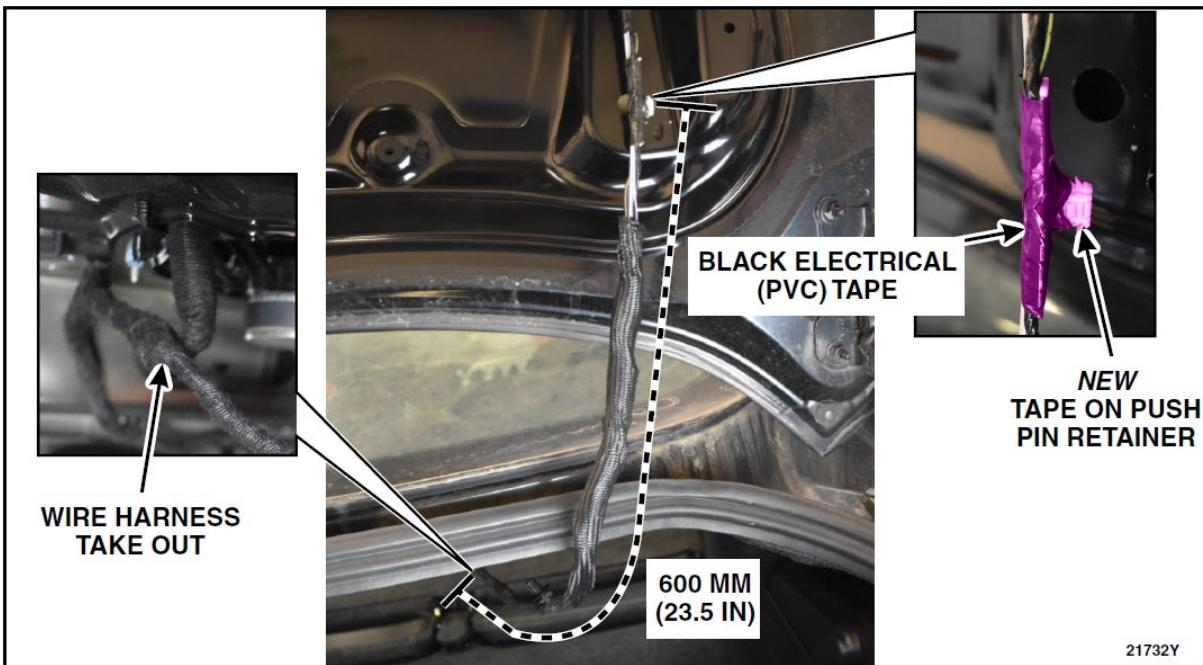

FIGURE 24
33. Measure 600 mm (23.5 in) from the wire harness take out, install the new tape on push pin retainer using some KTI73510 or equivalent black electrical (PVC) tape. See Figure 24.